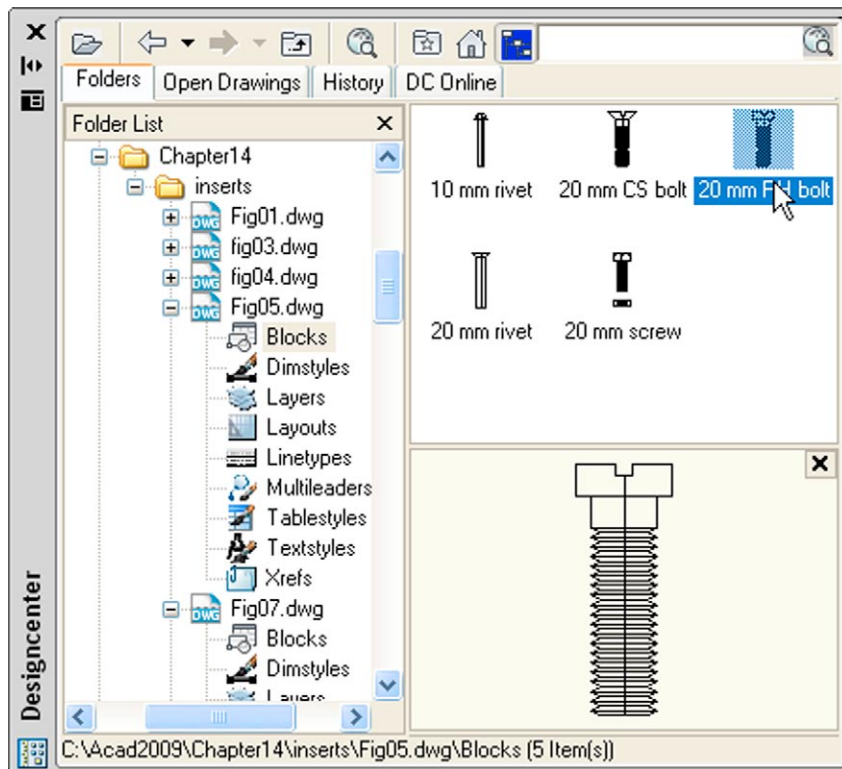

Fig. 14.6 Second example – a library of fastenings
Second example – a library of fastenings (Fig. 14.6)
- Open the DesignCenter, *click* on the **Chapter 14** directory, followed by a *click* on **Fig05.dwg**. Then *click* again on **Blocks** in the content list of **Fig05.dwg**. The five 3D models of fastenings appear as icons in the right-hand side of the DesignCenter (Fig. 14.6).